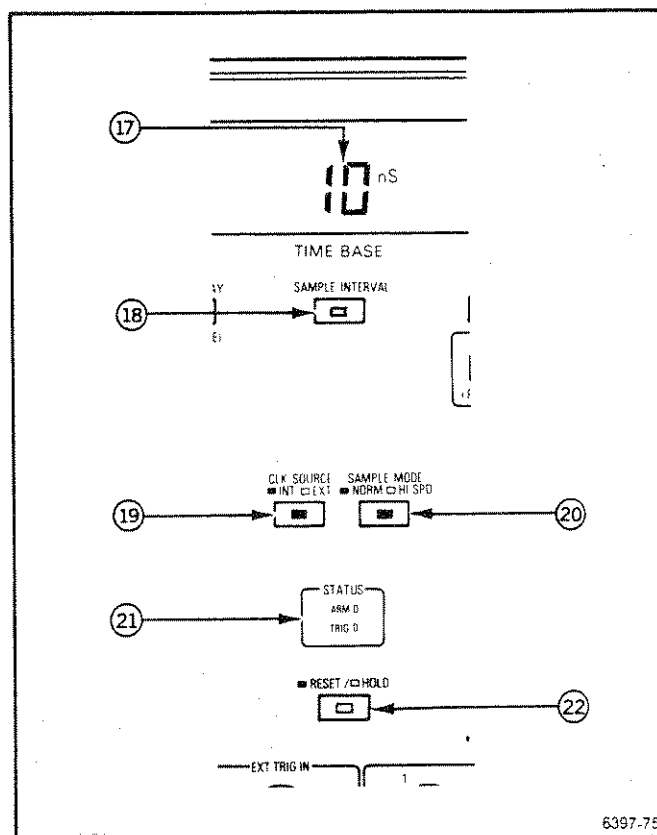

Fig. 3-5. Time base section of front panel.
Refer to Fig. 3-5 for location of items 17 through 22.